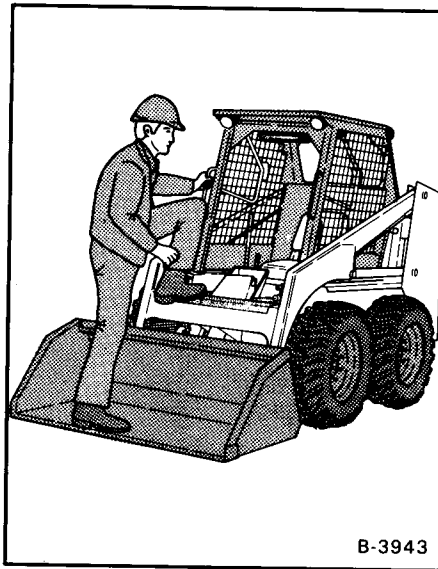

Fig. 1 Using Safety Treads & Grab Handles
1. Use the safety treads and grab handles when you get on or off the loader (Fig. 1).